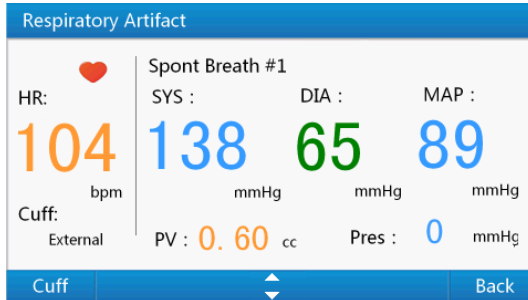

Figure 19 Respiratory artifact BP simulation interface
- 1) Select "**Respiratory Artifact**" in "**BP Simulation Menu**" or use number key "7" to the respiratory artifact BP simulation interface shown as Figure 19.